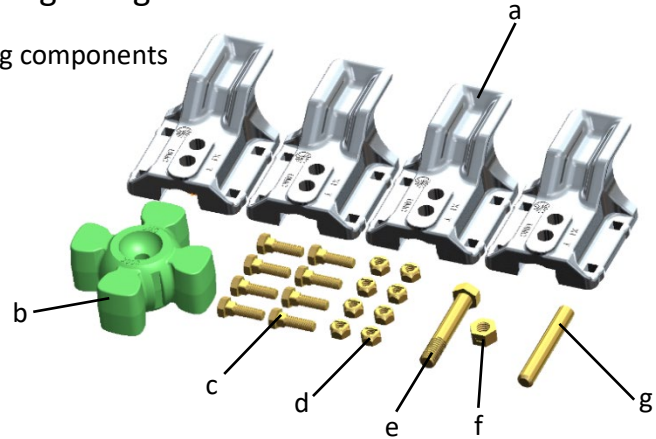

Figure 1: Coupler Kit components.
- Each UMC Coupler Kit comes with the following components and quantity as shown in Figure 1: